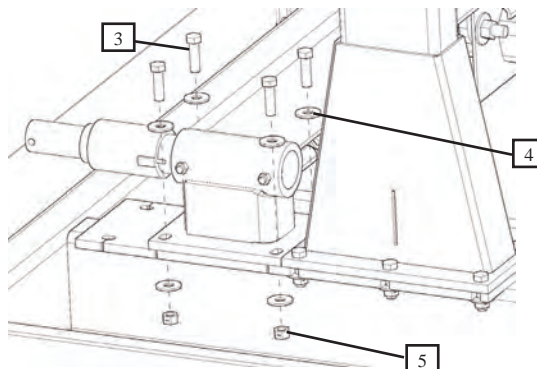

Figure 6.3
8. Insert 1/2"-13 X 1 3/4" Grade 5 Hex Head Bolt (#3) with two 1/2" Zinc USS Washers (#4) and 1/2"-13 Grade 5 Zinc Centerlock Hex Nut (#5) (Figure 6.3)
9. Torque each bolt down to 85 ft-lbs on all 4 Scale Mounting plates (Figure 6.3).